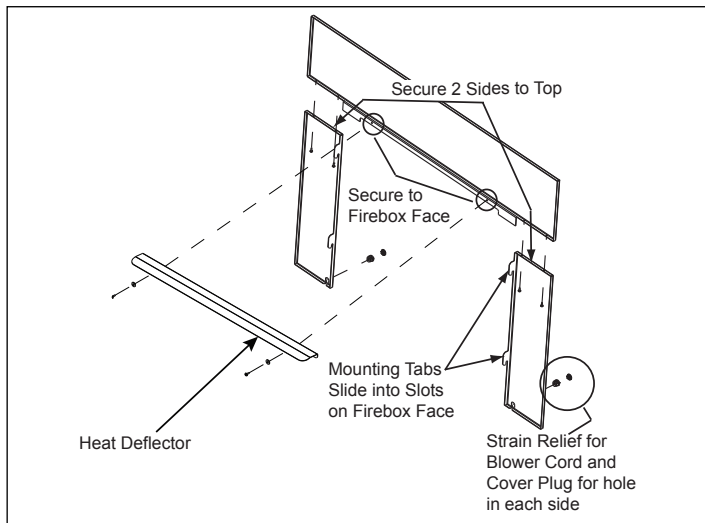

Figure 20.1
6. Align the 2 screws in the top surround piece to the 2 alignment holes on the appliance top. Secure in place. **Figure 20.1.**